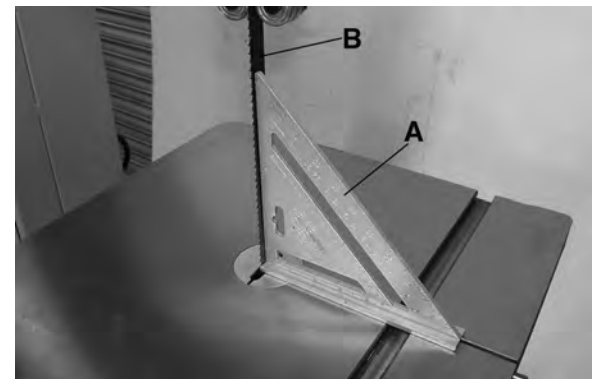

FIGURE 14
2. To ensure that your 90° cuts are square and the tilt scale indicates the correct angle, a verification is needed. Place a square (A) Fig.14 on the table and against the blade (B) to see if the table is 90 degrees to the blade.